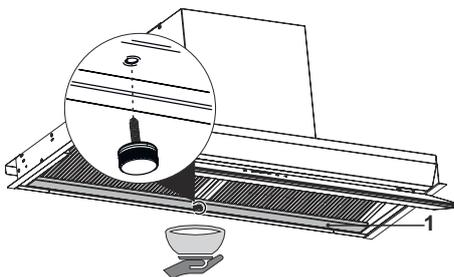

Fig. 19
1. → With one hand, remove the screw in the water reservoir by turning it in the direction of the arrow as shown, while with the other hand, hold a container (Fig. 19) under the screw you are removing to prevent water and oil accumulating in the water reservoir from flowing to the floor.